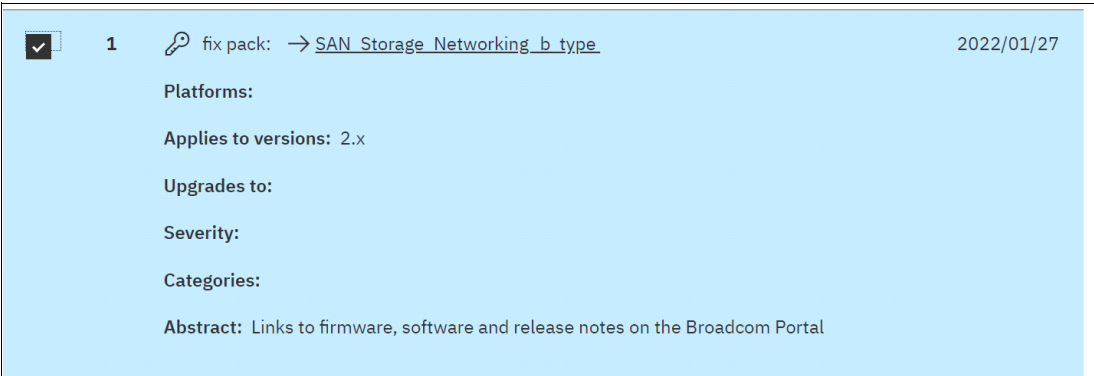

Figure 11-8 Show Fix Details for SAN Software Networking b type window
11.Select the checkbox at the left. The Show Fix Details for SAN Software Networking b type window opens (Figure 11-8).